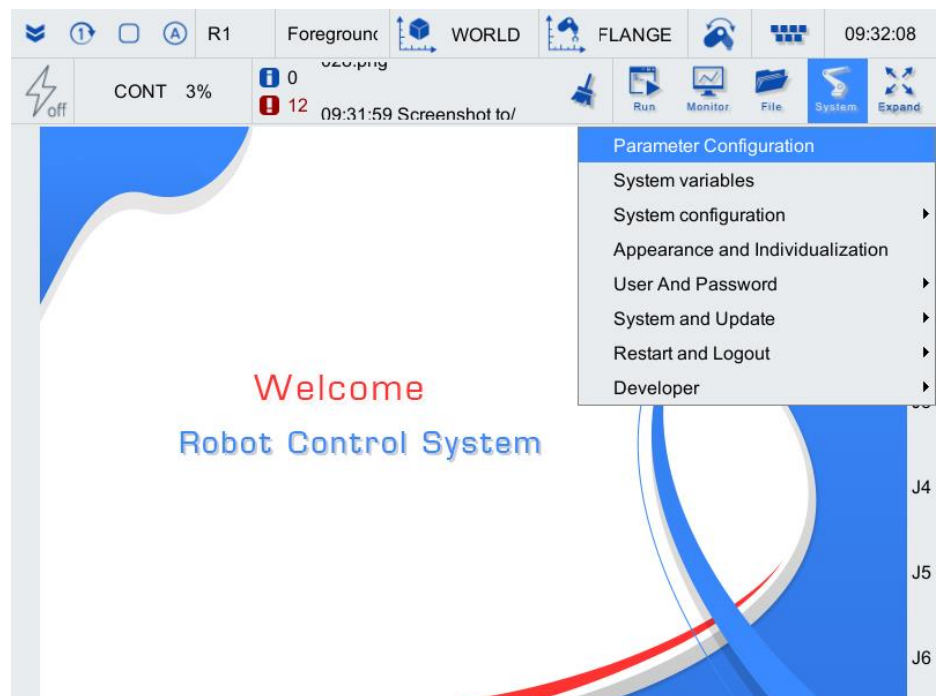

Figure 5-15 System related dropdown list
Step2. Click on [System/Parameter Configuration] in the upper right corner menu area, as shown in Figure 5-15.